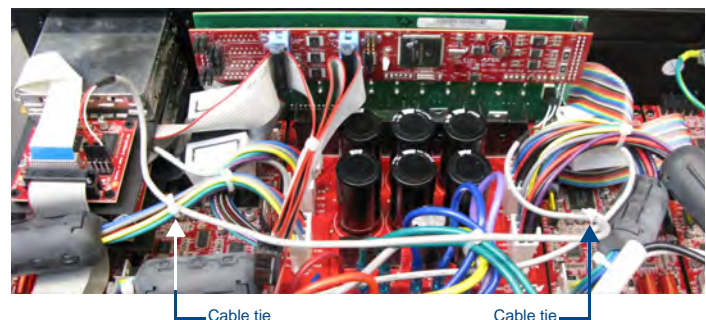

FIG. 16 Cable Routing
8. Use the supplied cable ties to secure the cable loosely as illustrated in FIG. 16: